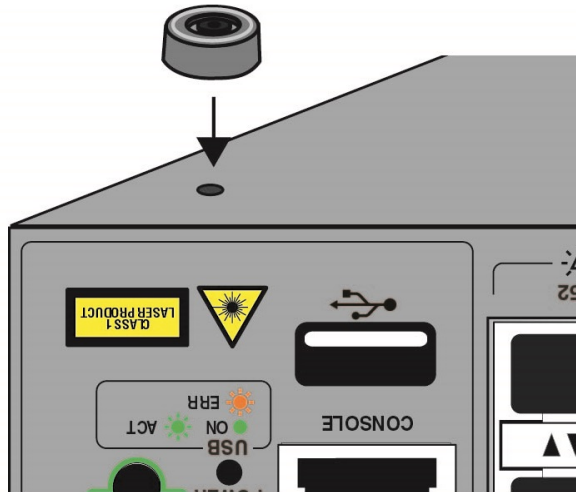

Figure 50. Placing the Bumper Foot on a Base Corner Hole
3. Place the bumper foot onto one of the holes in the base of the switch. Refer to Figure 50.